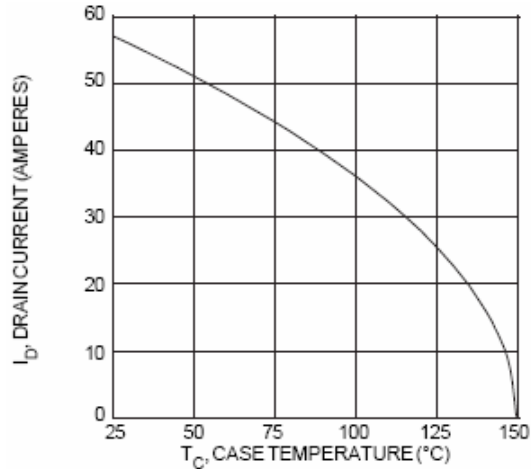

Figure 7 Maximum Drain Current vs. Case Temperature, APT50M75B2LL
To assist designers in the selection of devices for a particular application, APT provides a graph of maximum drain current versus case temperature. This graph is simply the solution to (2) over a range of case temperatures. Figure 7 shows an example. Note that in some cases, the package leads limit the continuous current (switched current can be higher): 100 Amps for TO-247 and TO-264 packages, 75 Amps for TO-220 package, and 220 Amps for the SOT-227 package.